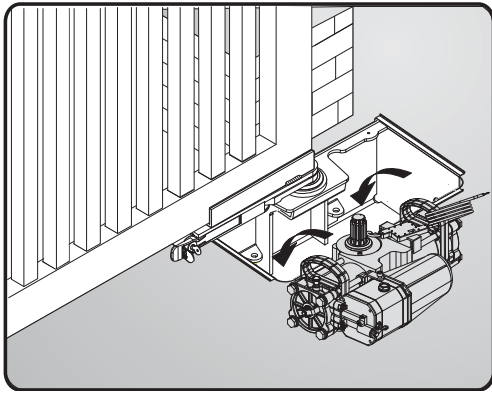
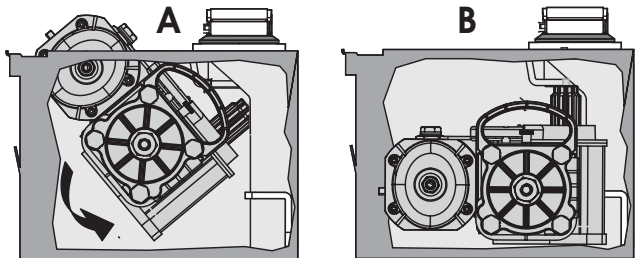

Fig.16
Fig.17
- 8) Using the specific handles, insert the operator in the support box figure 16, and position it as shown in figure 17 A, B.